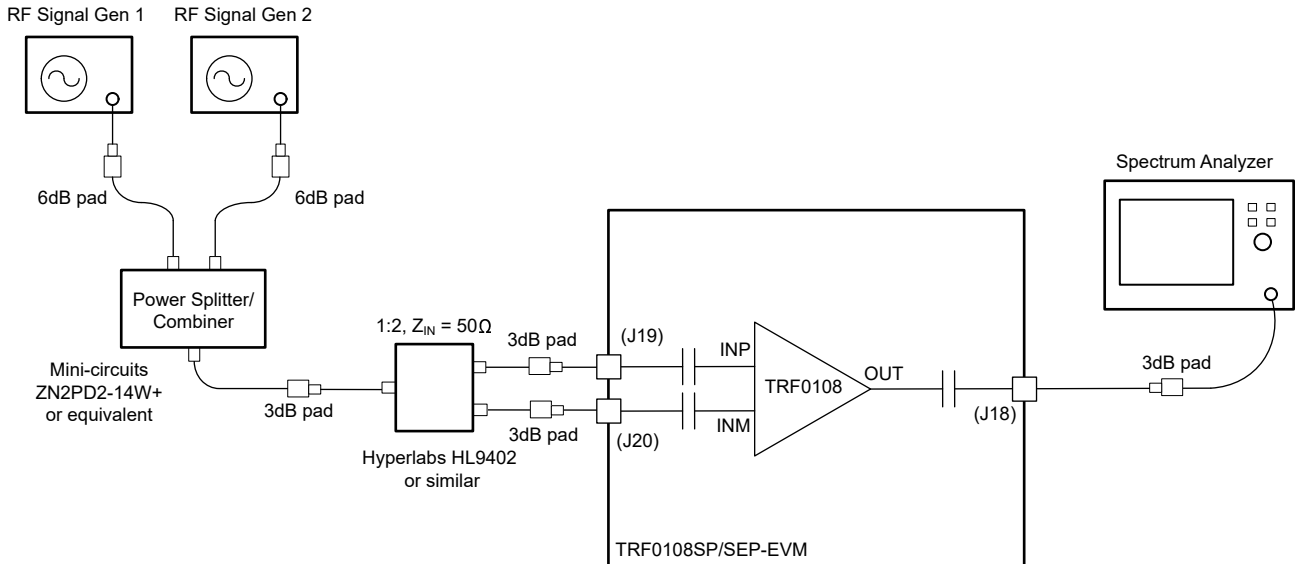

**Figure 3-3. Noise Figure Test Setup**
1. As shown in Figure 3-3, the traditional Y-factor method can be used for the NF measurement using a noise diode and a spectrum analyzer (or a noise figure analyzer).